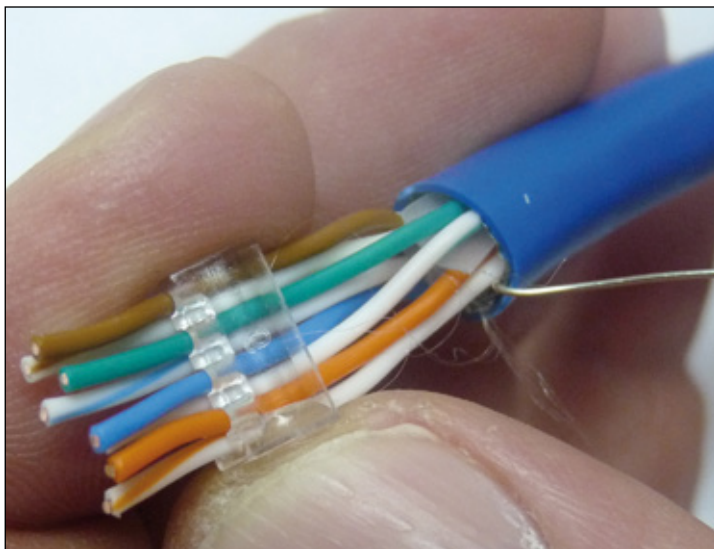

Figure 14
- 11 Proceed to slide the **Organizer Insert** until it touches the border the jacket as shown in the Figures 14 and 15.